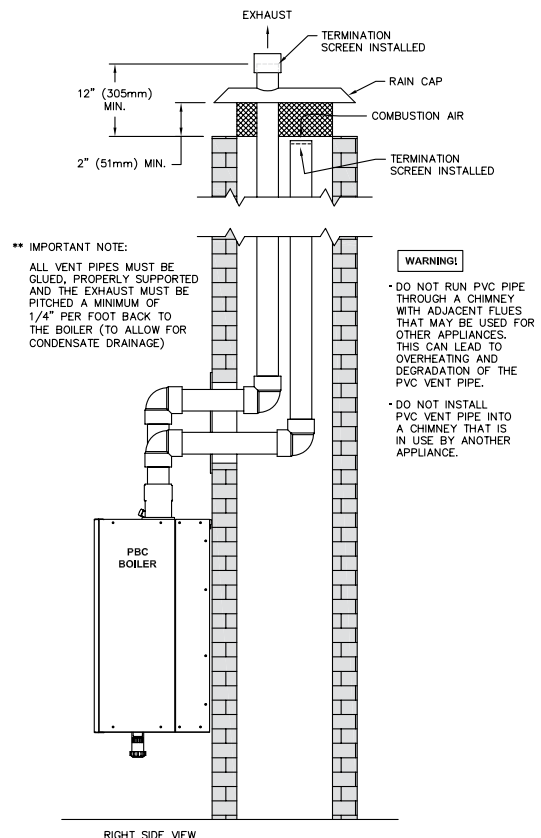

Figure 3.11: Venting Through a Chimney Using Outside Air
- e. Figure 3.11 shows an option for routing the exhaust and air inlet piping through an unused chimney.